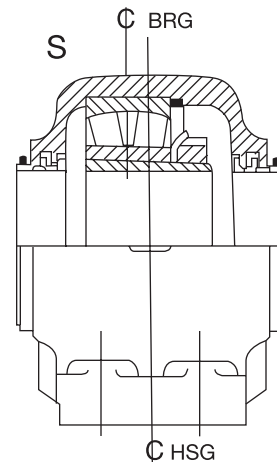

Figure 2 - Bearing Installation
NOTE: Bearing can only be correctly installed one way. See Figure 2.
- d. Bearing — Make sure the internal clearance has been written down. Install bearing on adapter sleeve, large end of tapered bore first. Locate bearing in proper position on shaft. Before tightening refer to Figure 2 and Table 4.
NOTE: Be sure the housing is positioned as shown in Figure 2 view relative to adapter nut.